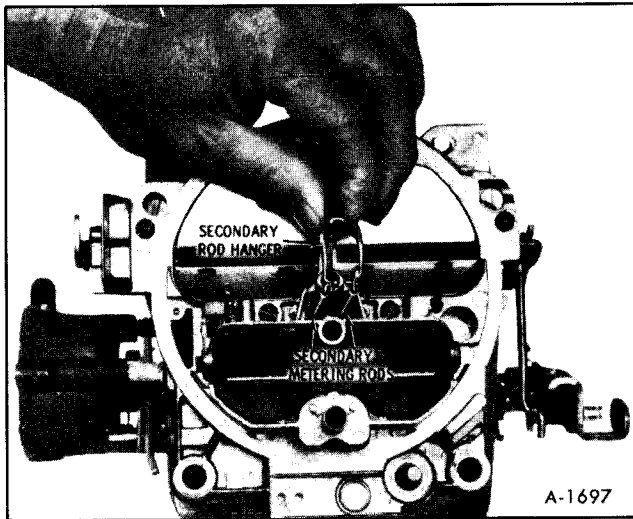

Figure 12—Secondary Metering Rods
4. Remove secondary metering rods by removing the small screw in the top of the metering rod hanger. Lift upward on metering rod hanger until the secondary metering rods are completely out of the air horn. Metering rods may be disassembled from the hanger by rotating ends out of the holes in the end of the hanger (See figure 12).